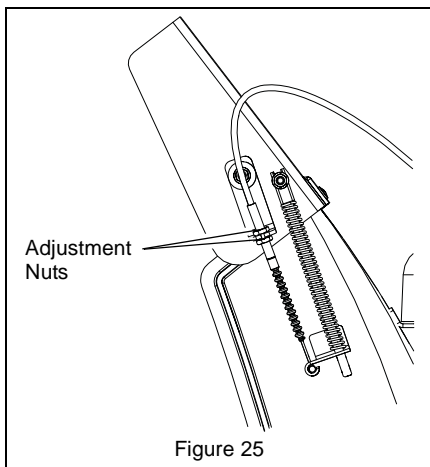

Figure 25
2. Loosen adjusting nuts on cable support bracket on side of chute deflector (Figure 25).